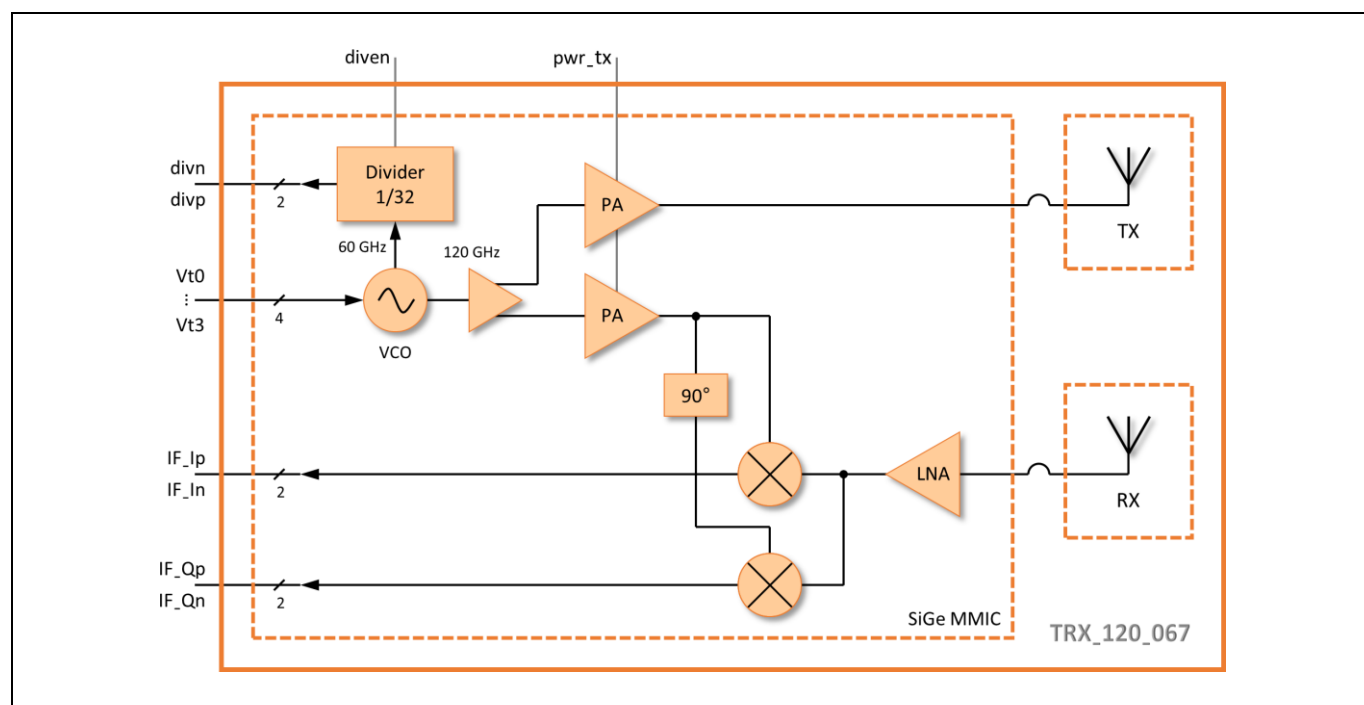

Figure 1 Block Diagram
The RFE is an integrated transceiver circuit for the 122-GHz ISM band with antennas in package. It includes a low-noise amplifier (LNA), quadrature mixers, a poly-phase filter, a voltage-controlled oscillator, divide-by-32 outputs and transmit and receive antennas (see Figure 1). The RF signal from the oscillator is directed to the RX path via buffer circuits. The RX signal is amplified by the LNA and converted to baseband by two mixers with quadrature local oscillator (LO). The 120-GHz LO has four analog tuning inputs with different tuning ranges and tuning slopes. The tuning inputs can be combined to obtain a wide frequency tuning range. The analog tuning inputs together with integrated frequency divider and external fractional-N PLL can be used for frequency modulated continuous wave (FMCW) radar operation. With fixed oscillator frequency it can be used in continuous wave (CW) mode. Other modulation schemes are possible as well by utilizing analog tuning inputs. The IC is fabricated in a SiGe BiCMOS technology.